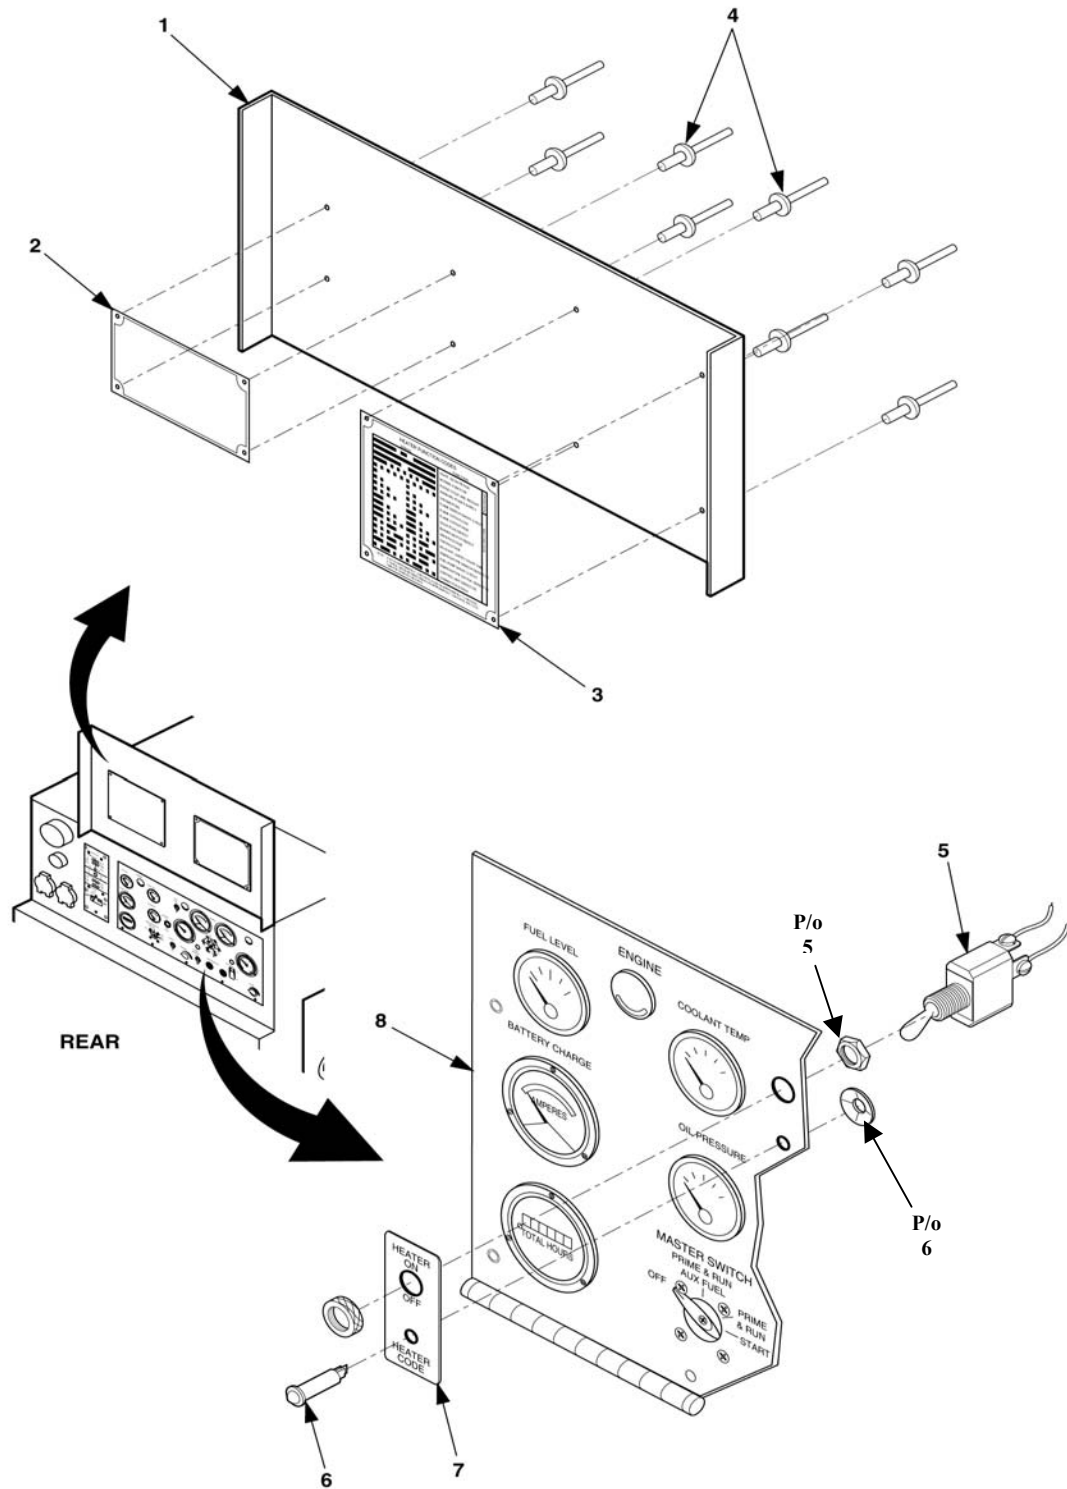

Figure 5-7. Cover and Instrument Panel
20. Connect (+) terminal wire of fuse holder (1) to the slave receptacle. Then install fuse XF1 into fuse holder (bottom left radiator housing).
21. Drill a 1/5" hole at lower left hand radiator side stiffener and mount fuse holder (1), using screw, washer, and nut provided in kit. Refer to generator TM 9-6115-643-24.
22. Open control panel access door (1), Figure 5-7.
23. Locate operating instruction plate (2) and heater function codes plate (3) and match drill 3/16" holes in control panel access door (1). Plates shall be readable when the door is open.
24. Install rivets (4). Rivet head shall be to the outside of the unit.
25. Locate heater switch label (7) and drill a 5/16" and a 1/2" hole in control panel (8).
26. Install heater switch label (7), indicator light (6), and toggle switch (5).